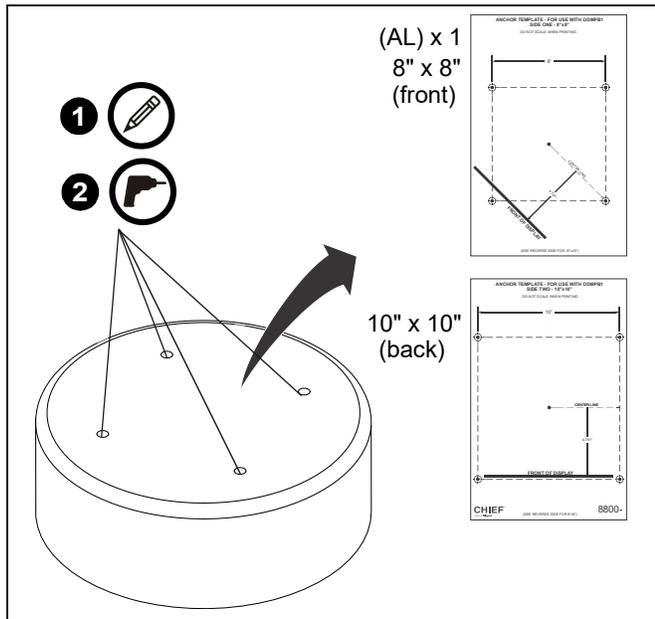

Figure 1
1. Determine the mounting location of the base. Mark the locations of four mounting holes. (See Figure 1)
2. If installing into existing concrete, hammer drill one hole at each marked location. Ensure holes are at least 3" from nearest concrete edge. Remove debris from holes. (See Figure 1)
**IMPORTANT ! :** Use the included Anchor Template (AL) to mark locations of the mounting holes prior to drilling.